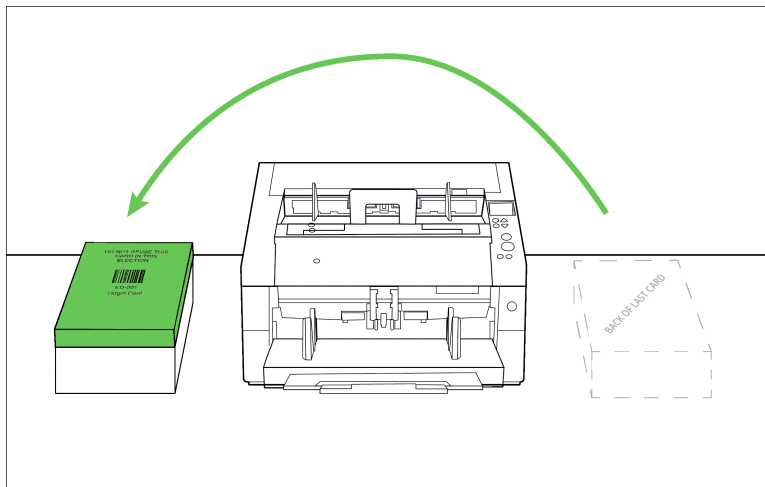

Figure 5-9. Picking up scanned cards from the right side of the table and turning them over so that target card is facing up
4. Pick up the scanned cards from the right side of the table and flip them over so the target card is now facing up (Figure 5-9).